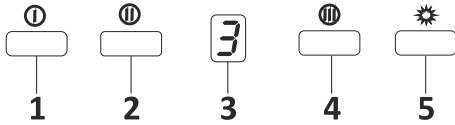

Fig. 14: 3 Spd Dig Button
1. Press this button to turn on the product. Product will also run on 1st speed level when this button is pressed. Fig. 14
2. Product will run on 2nd speed level when this button is pressed. Fig. 14
3. Dig display You can follow which speed the product is currently working on this display. Fig. 14
4. Product will run on 3rd speed level when this button is pressed. Fig. 14
5. Press this button to turn on and off the lamp. Fig. 14
6. Pressing and holding any of the motor operation buttons for more than 2 seconds will initiate a timer function of 15 minutes. A signal will be Displayed once the timer starts and the motor will stop automatically after 15 minutes. Fig. 14